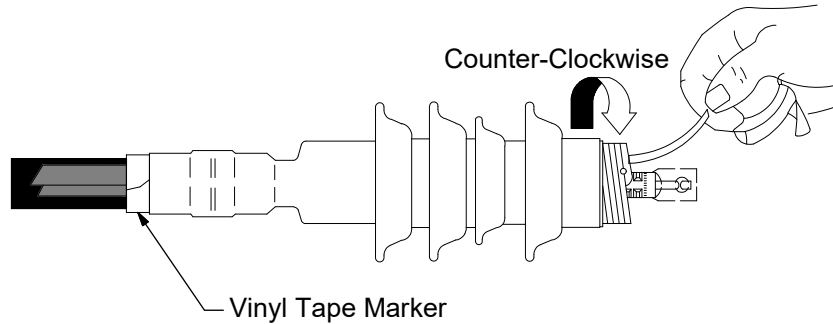

Figure 6A
9. Position the terminator body on the cable. The base of the terminator body (not the core), must be butted up to the edge of the vinyl marker tape. Remove the core while unwinding in a counter-clockwise direction. Once the terminator body has made contact over the mastic seal area, there is no need to continue supporting the assembly **DO NOT** push or pull the terminator while unwinding the core. See Figure 6A.